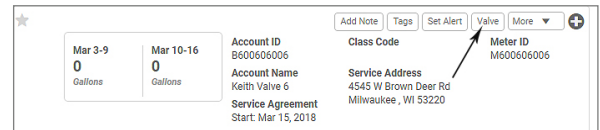
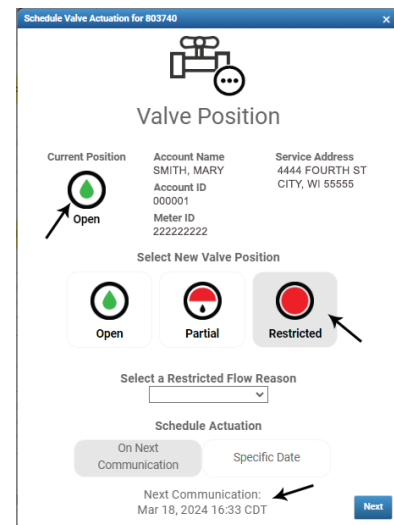

Figure 17: Valve button on meter card
Figure 18: Schedule Valve Actuation popup
2. On the account meter card, click the **Valve** button (Figure 17) to open the *Schedule Valve Actuation* popup window (Figure 18).